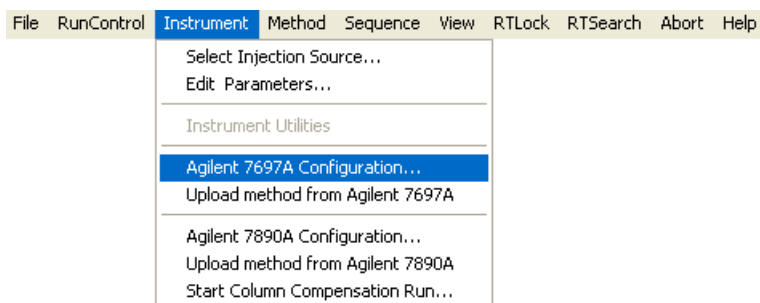

Figure 7 Selecting the Agilent 7697A Configuration
- 1 To access the **Agilent 7697A Configuration**, select **Instrument > Agilent 7697A Configuration...** from the data system's top menu (Figure 7).